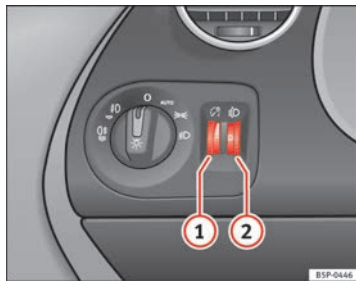

Fig. 75 Dash panel: regulation for instrument and switch illumination and headlight range control
When the headlights are switched on, the brightness of the instruments and switch lighting can be regulated to suit your requirements by turning the thumb wheel → fig. 75 ①.